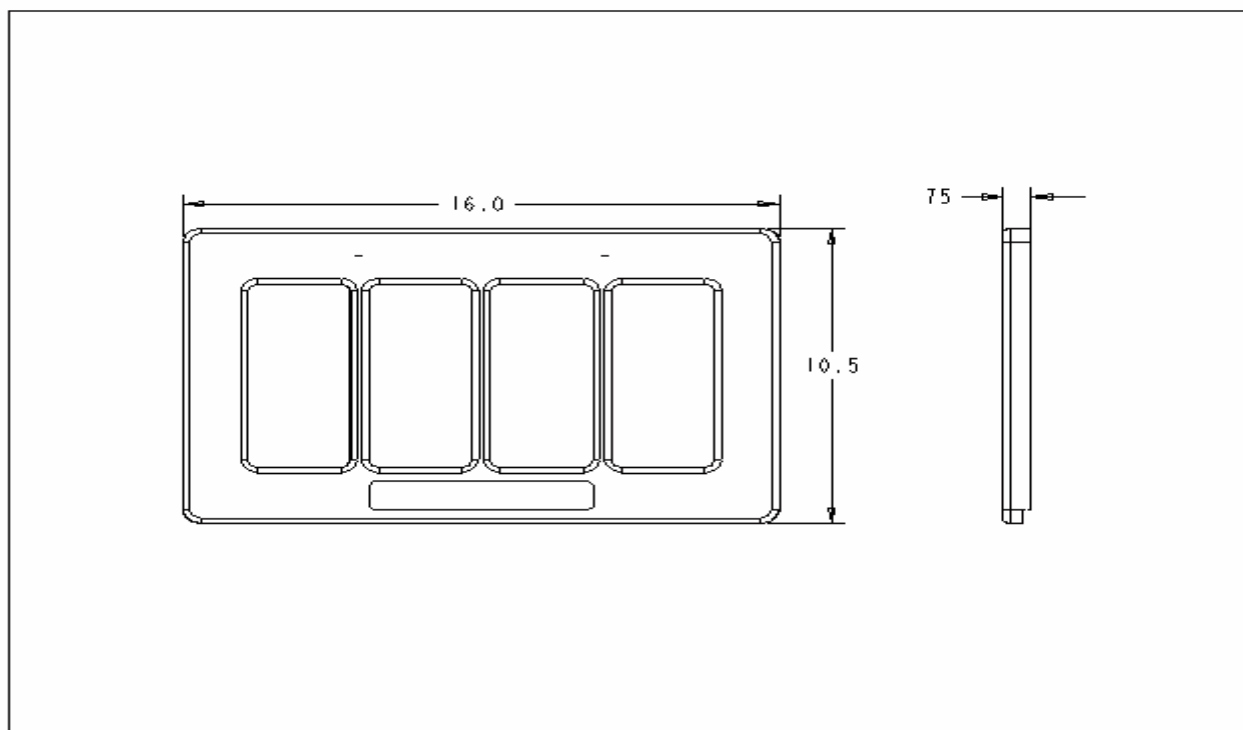

**Figure 4, 3-Module Back Box**
3.1.1.1 The first back box (Figure 4) is 14.0 inches long and will accommodate one Control Module and three other modules.